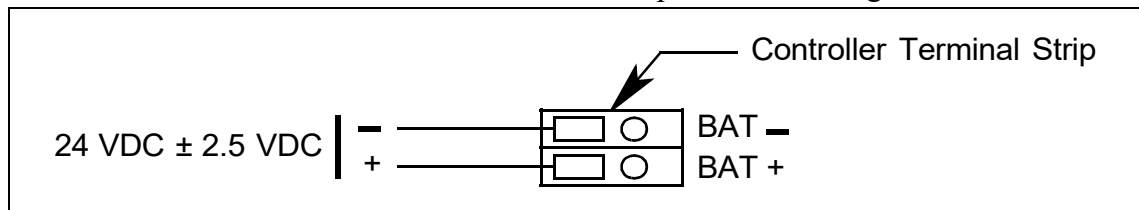

Figure 7: DC Power Wiring
5. Connect the DC wires to the controller terminal strip as shown in Figure 7.